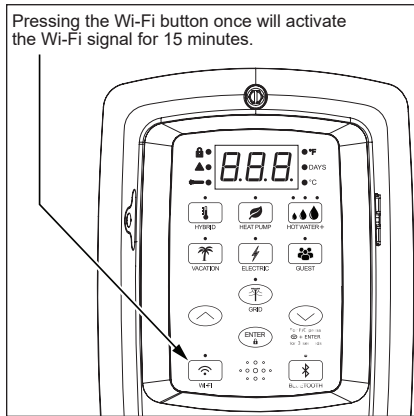

Figure 27 - Wi-Fi Control
- To activate the Wi-Fi signal, press the Wi-Fi button once. The LED will blink on and off in 1/2 second intervals. Wi-Fi will activate pairing mode (Figure 27).